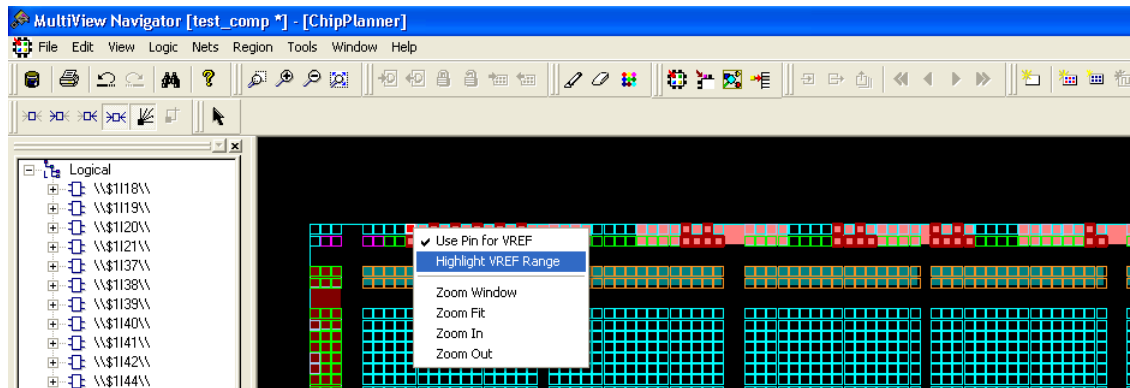

Figure 8-14 • VREF Range
- Right-click and then choose **Highlight VREF range**. All the pins covered by that VREF pin will be highlighted (Figure 8-14).